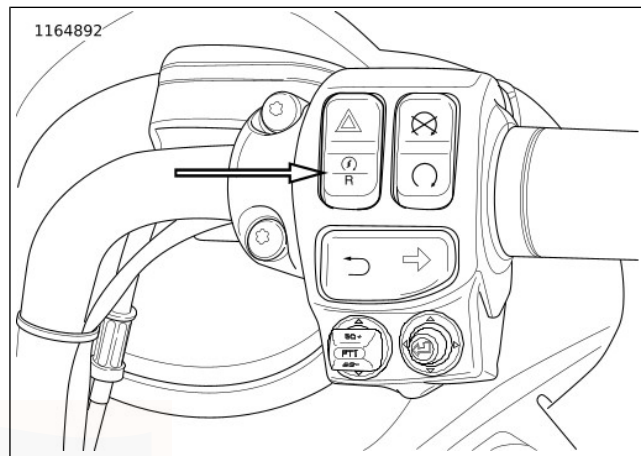

Figure 49. Reverse Switch (typical)
2. See Figure 49. With the vehicle started and in neutral, press and hold the reverse switch in the right side controls until the reverse lamp illuminates. **With fairing:** The lamp in the tachometer indicates that the reverse is enabled. See OPERATION > INSTRUMENTS (Page 84). **Without fairing:** The lamp in the speedometer indicates that the reverse is enabled. See OPERATION > INSTRUMENTS (Page 84). Release the reverse switch. The neutral lamp turns off when the reverse lamp turns on.